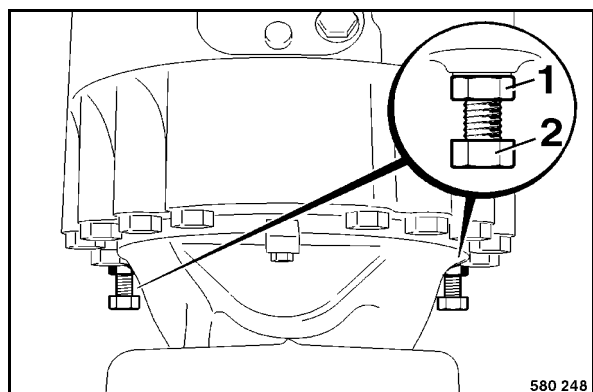

Fig. 111
- To release the brake turn counter nuts (1) (Fig. 111) approx. 8 mm back.
- Turn the brake releasing screws (2) completely in against the stop.